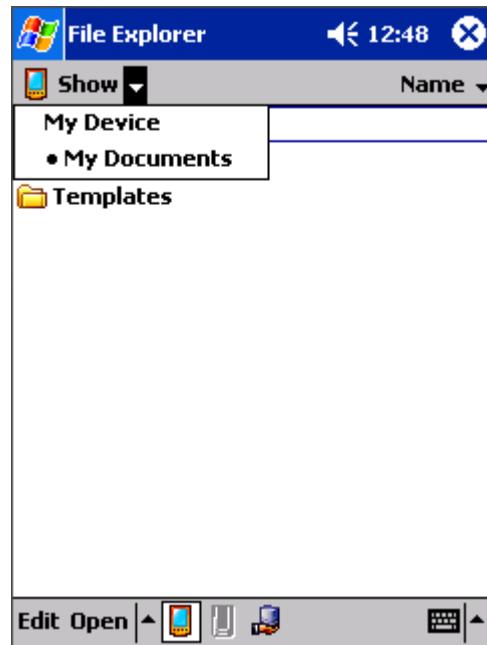

Figure 1: File Explorer
- Using the drop down box, select *My Device* as shown in Figure 1